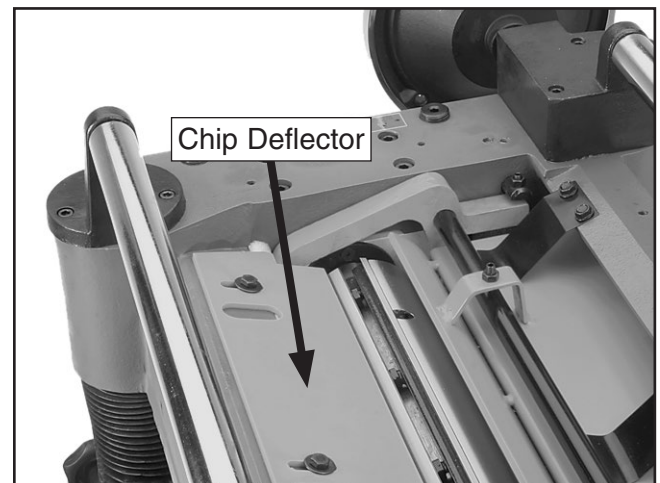

Figure 43. Example of the chip deflector and securing hex bolts.
3. Rotate the cutterhead pulley until an insert on one end of the cutterhead is nearest the chip deflector, then measure that distance between the chip deflector and the insert (see **Figure 43**).